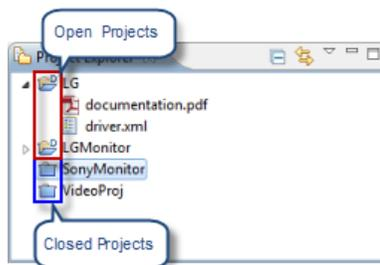

FIG. 15 Project Explorer - open and closed projects
- Closed Projects are represented with a closed folder icon (FIG. 15):